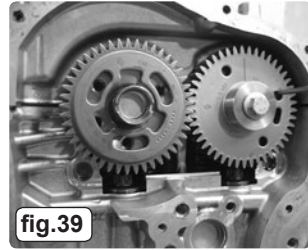
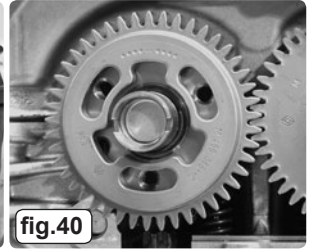

fig.39
fig.40
3.6.6 Install the exhaust camshaft gear ensuring that the bolt holes are positioned in the centre of the elongated holes in the gear and that the gear teeth mesh together with the gear teeth of the inlet camshaft gear (fig.39 & fig.40).